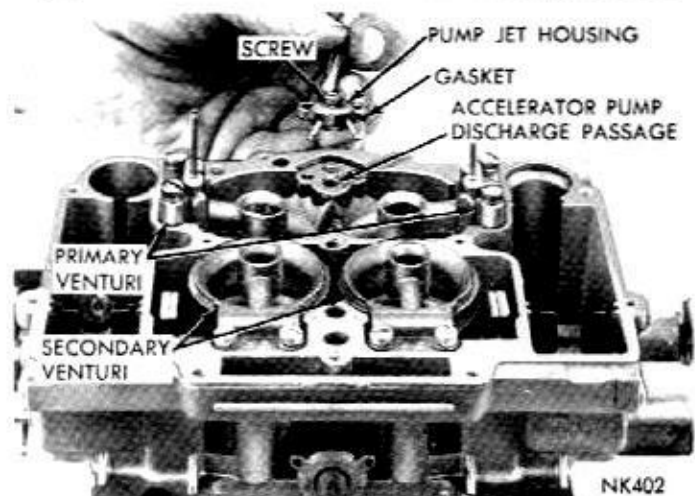

Fig. 3—Removing or Installing Accelerator Pump Jet Housing
(1) Remove screws that attach accelerator pump jet housing to main body. Lift out jet housing and gasket (Fig. 3). Discard gasket. Now, invert main body and drop out discharge check needle from discharge passage.